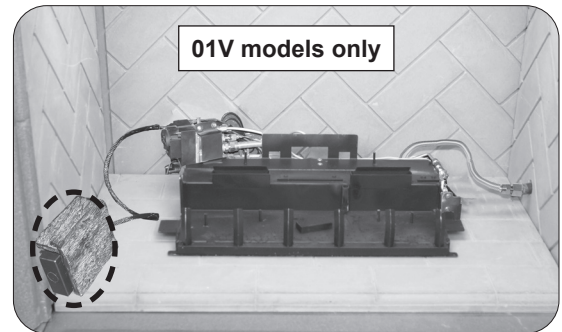

Fig. 16-2 Place battery box
3. Place the burner system in the fireplace. Center the burner in the fireplace. (Reference Fig. 16-2 for orientation.)
6. **01V models only: place the battery box extension at the front left corner of the fireplace.** Place as far from the burner system as possible. Then place the decorative heat shield. See Fig. 16-2.